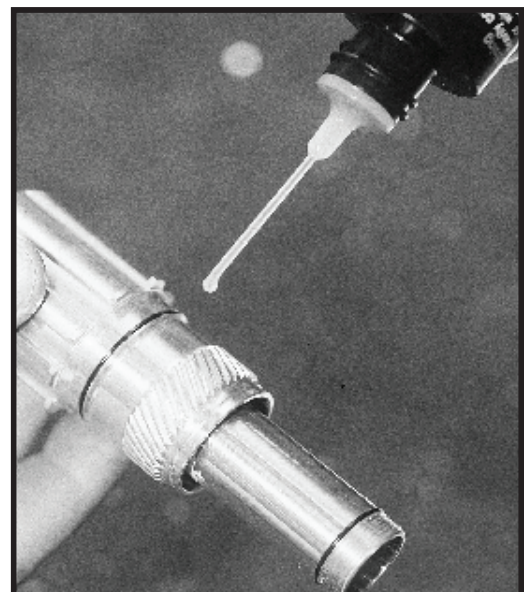

Figure 14 - lube helical splines
7. Apply a few drops of lightweight, low viscosity oil, with PTFE (e.g. TriFlow™) onto both the helical splines of the movable drive ring and the driveshell (see figure 14).